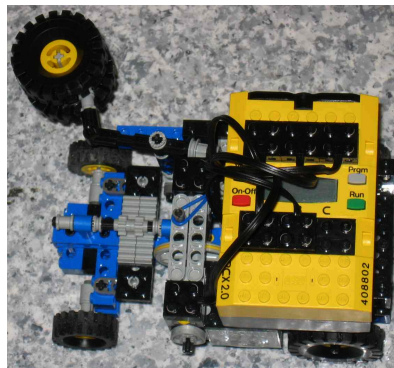
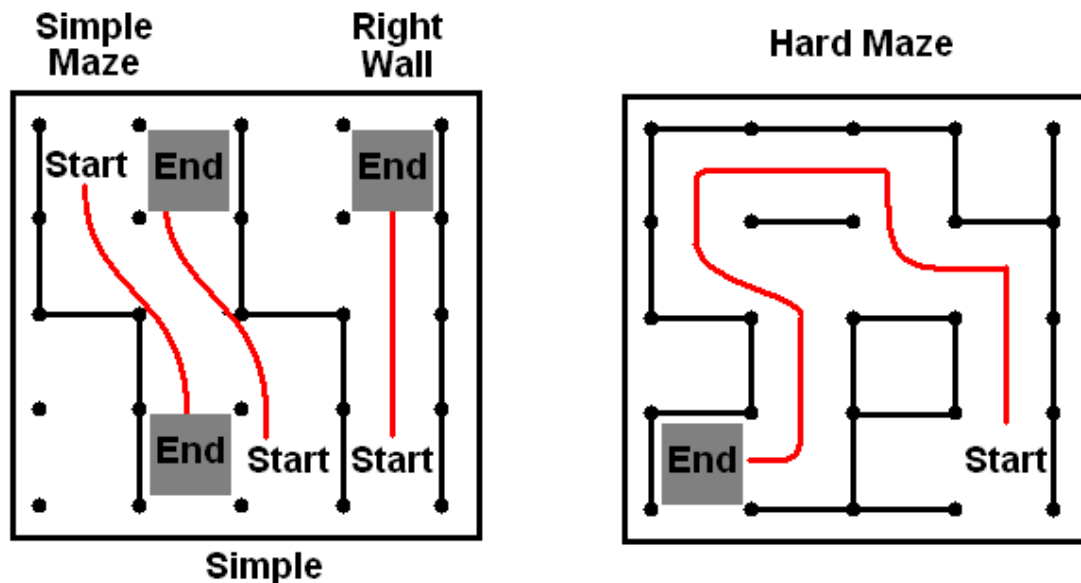

Figure 1. Maze Rover
Figure 2. Simple Maze
- Build the maze rover as shown in figure 1. (Instructions can be found on the C&P website in a document entitled “maze_robot.pdf” and “maze robot wiring diagram.pdf”)
- Write an algorithm to enable the rover to navigate a maze (shown in Figure 2), using the right hand rule, i.e., the rover will turn 90 degrees to the right when it encounters an obstacle. Use the touch sensor connected to the rover bumper (shown in Figure 1) to determine whether an obstacle is encountered. Your rover should stop moving when it detects the end of the maze (using the light sensor to detect a black surface). Turn in a hardcopy of your algorithm.
Two mazes with the configurations shown in Figure 2 have been setup in lab. There is one right wall following maze, two simple mazes, and one hard maze.